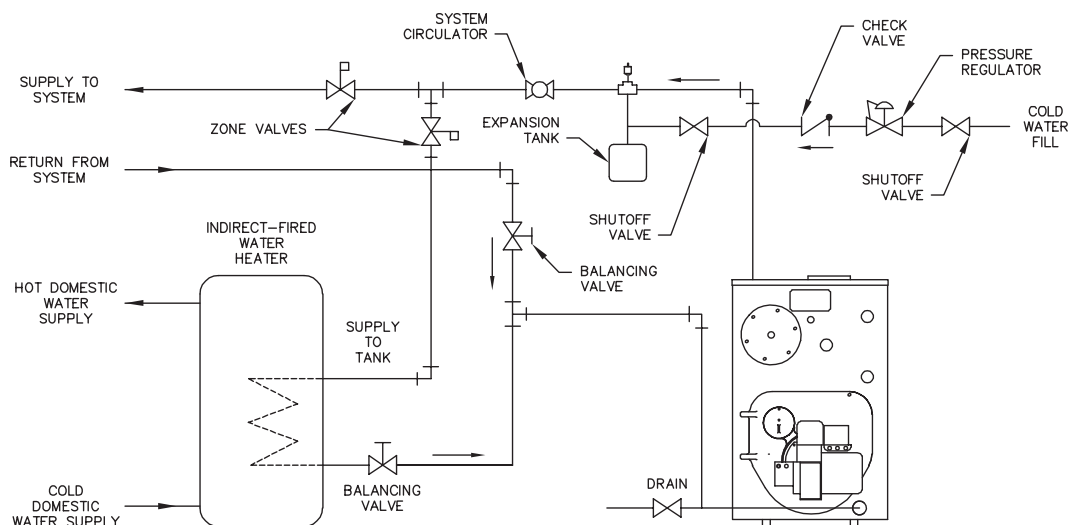

Figure 3.6: Piping with Peerless® Indirect Water Tank
5. If using a Partner indirect fired water heater or other, see Figure 3.6 for typical piping. Also refer to additional instructions supplied with the Partner.